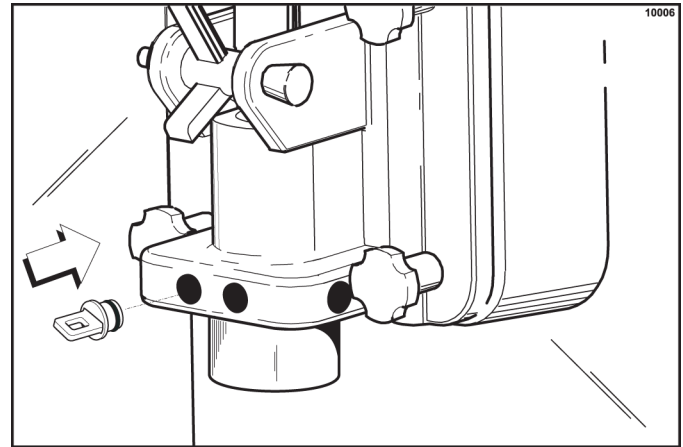

Figure 6-48
16. Install the syrup hole plugs in the syrup ports in the freezer door. (See Figure 6-48.)